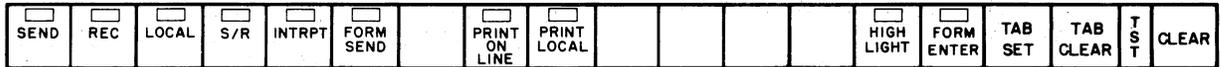
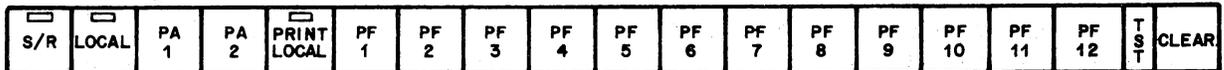
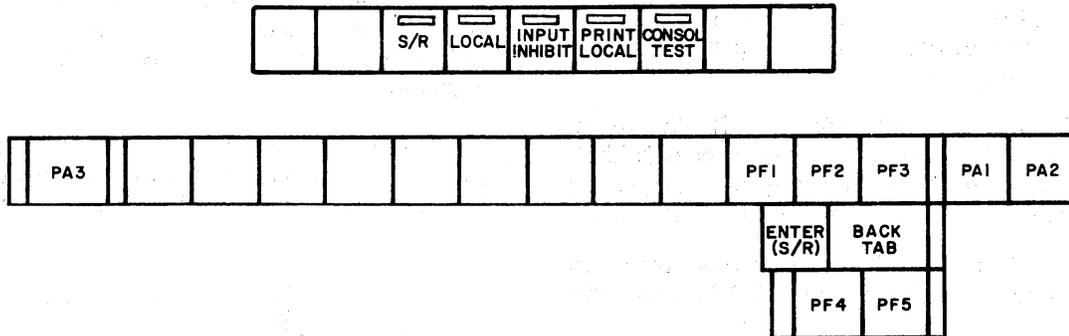

Fig. 11--40K101 KD Opcon Control Keys
Fig. 12--40K104 KD Opcon Control Keys
Fig. 13--40K105 KD Opcon Control Keys
3.06 The following control keys may include station status indicators. The indicator normally lights when key is depressed indicating mode of device (Fig. 11, Fig. 12, and Fig. 13).